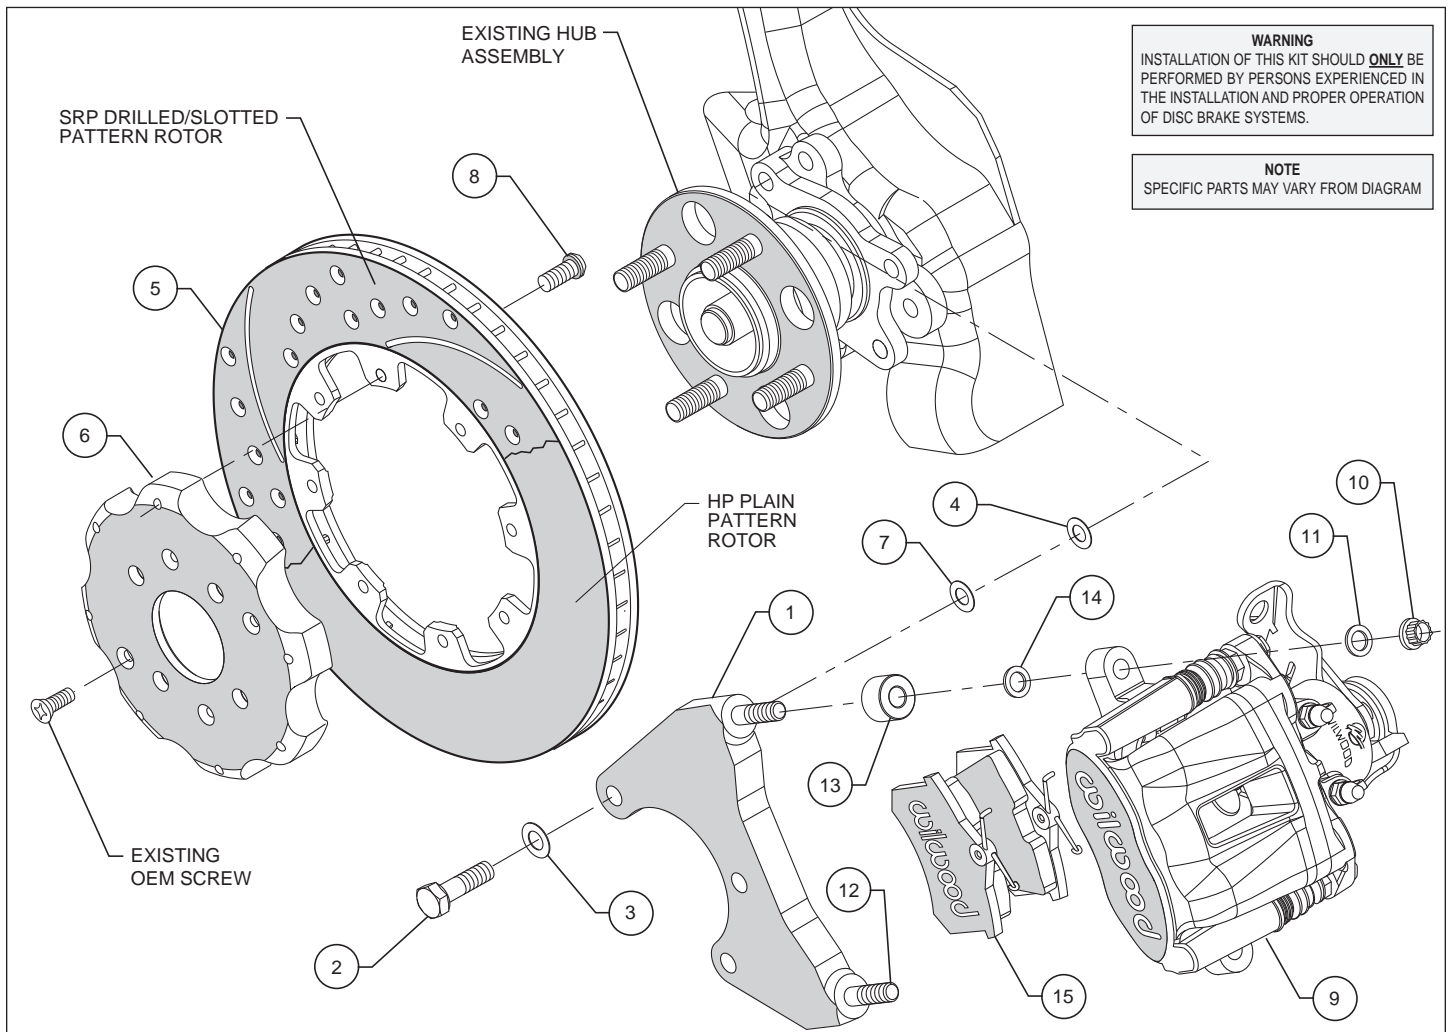

Figure 1. Typical Installation Configuration
- The caliper mounting bracket (1) should be installed first with clean, dry threads on the mounting bolts. Install the bracket (1) on the outboard side of the hub assembly by sliding bolt (2) through washer (3) and bracket (1) and thread into the existing hub assembly mounting holes. Place two shim washers (7) between the hub and the caliper mounting bracket (1). The mounting bracket (1) must tighten squarely against the outboard side of the hub assembly face. Inspect for interference from casting irregularities, machining ridges, burrs, etc. Use two shims (7) between the mounting bracket (1) and hub assembly face during initial trial fitting.
- With the larger I.D. side of the rotor (5) facing away from the hat (6), attach rotor (5) to hat (6) using bolts (8) as shown in Figure 1. Using an alternating sequence, remove bolts one at a time, apply red *Loctite*[®] 271 to the threads, and torque to 25 ft-lb.
- Slide the brake pads (15) up into the caliper (9) from the bottom until the "v" spring clip snaps into place against the anvil. They should install easily without interference.
- Lubricate caliper mounting studs and nuts with lightweight oil. Install spacer (13) and two shims (14) over each stud (12) on the radial mount bracket (1). Slide the caliper (9) in place over the studs and rotor and install the washer (11) and lock nut (10) to hold the caliper in place. The caliper bleed screw should be pointing toward the rear of the vehicle. Snug the lock nuts (10) and check that the caliper (9) is centered over the rotor (5). Add or subtract .016" shims (4) and/or .035" shims (7) as necessary between the caliper mounting bracket (1) and the spindle face to center the caliper (9) on the rotor (5).
- Check that the outside radius of the brake pad (14) is aligned with the outside diameter radius of the rotor face. Add or subtract shims (14) between the caliper (9) and caliper mounting bracket (1) to gain the proper alignment.
- Once all clearances have been checked, remove the wheel, caliper and rotor from the axle flange. Secure the caliper mounting bracket (1) to the spindle face while applying red *Loctite*[®] 271 on the bolt threads (2). Torque the bolts (2) to 40 ft-lbs. Reinstall the rotor and again use several lug nuts to hold it in place being sure to align the small countersunk holes in the hat (6) with the corresponding holes in the hub. Reinstall the caliper, torque the caliper nuts (10) to 28 ft-lbs.